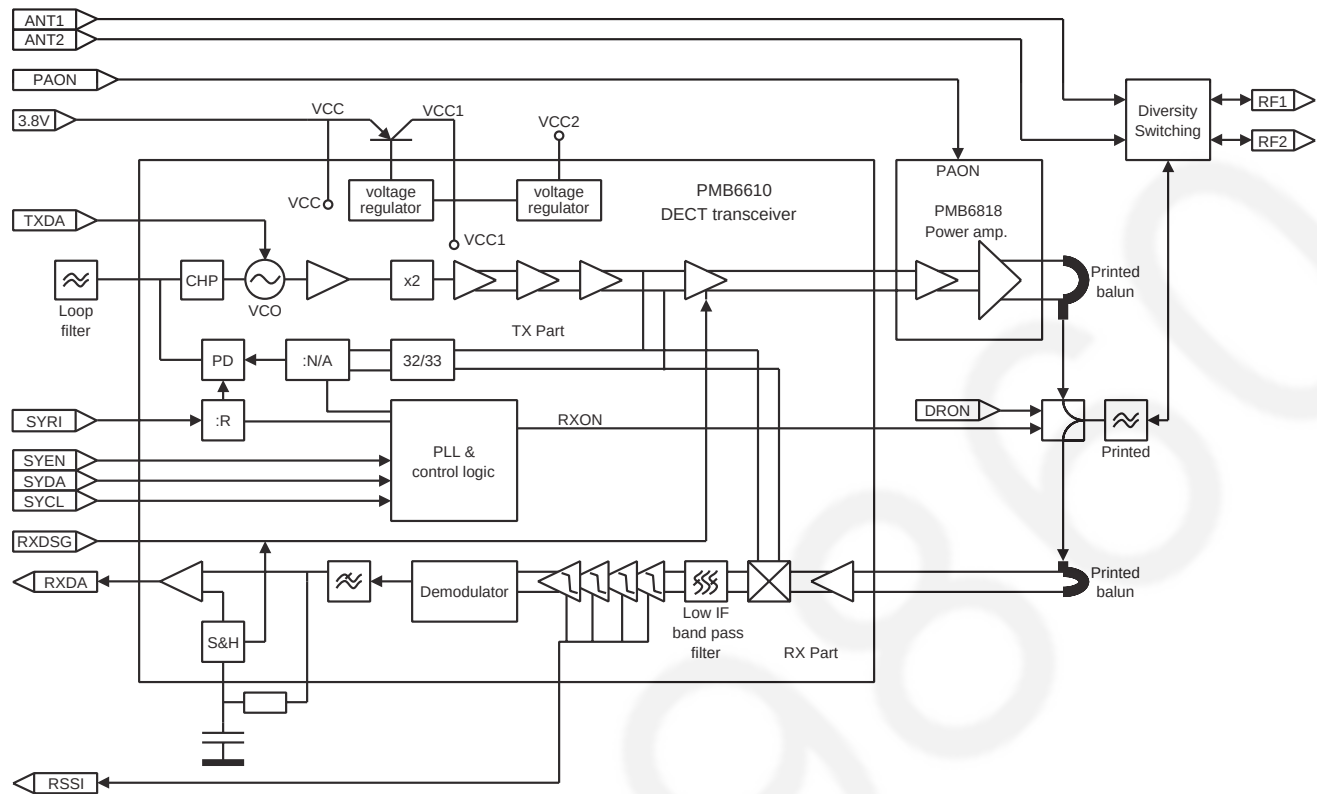

Fig. 22
6.3.1. RF MODULE (SEE BLOCK DIAGRAM Fig.22)